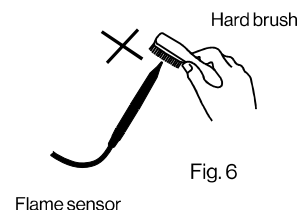

Fig. 6
2. The safety sensor is delicate, it should always be kept clean and dry system and please do not use stiff brushes or rough cleaning pads for cleaning. (Fig 6).